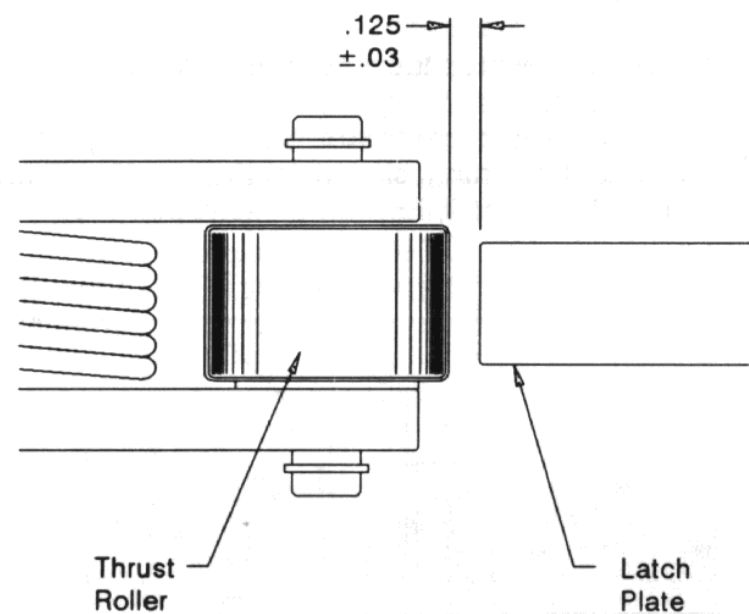

Figure 37 -- Shunt Trip Gap 72-265-035-432
- 2. Hand crank to the full open over-toggle position against the open position outboard bearing stop while observing the shunt trip gaps and the green band positions. Shunt trips gaps MUST NOT exceed 3/16 inch as shown in Figure 37. Green band positions should indicate having traveled 1/2 to 3/4 into the bands. See Figure 10. DO NOT over rotate beyond any of the green bands.